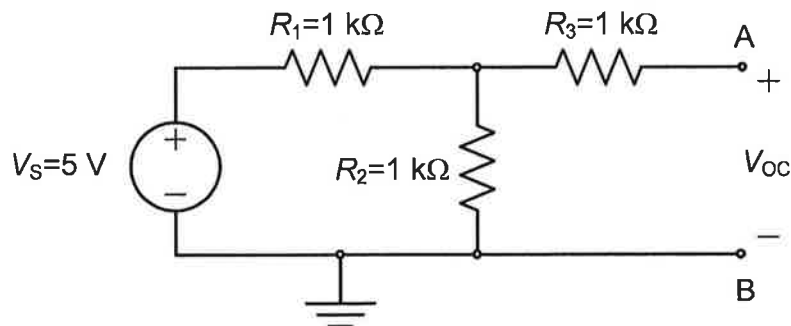

Figure 2. A resistive circuit excited by a dc voltage source.
**Pre-lab Assignment 2.a:** For the circuit shown in Fig. 2, find the Thevenin and Norton equivalent circuits seen between terminals A and B. Draw each equivalent circuit separately with the appropriate values provided. Provide your work step by step and box your results.
**Pre-lab Assignment 2.b:** For the circuit shown in Fig. 2, find the optimum value of the external load resistance  $R_{L,opt}$  to be connected between the terminals **A** and **B** so that it receives maximum power from the circuit. What is  $P_{L,max}$ ? (Hint: Use the results of pre-lab assignment 2.a.)
**Lab Experiment 2.a:** Construct the circuit shown in Fig. 2. Using the *LCR* meter, measure and record the actual values of the resistors used in your circuit. Verify the Thevenin and Norton equivalent circuits obtained in pre-lab assignment 2.a by measuring the open-circuit voltage  $V_{OC}$  and short-circuit current  $I_{SC}$  between terminals **A** and **B**.
Table 3. Measured values of  $V_{OC}$ ,  $I_{SC}$  and  $V_L$ , and calculated value of  $R_T$  (or  $R_N$ ) and  $P_L$  in the circuit shown in Figure 2.
**Lab Experiment 2.b:** Connect a load resistance with the optimum value  $R_{L,opt}$  between terminals **A-B** in the original circuit shown in Fig. 2. Measure the voltage  $V_L$  across  $R_{L,opt}$  and use it to verify the  $P_{L,max}$  value calculated in pre-lab assignment 2.b.